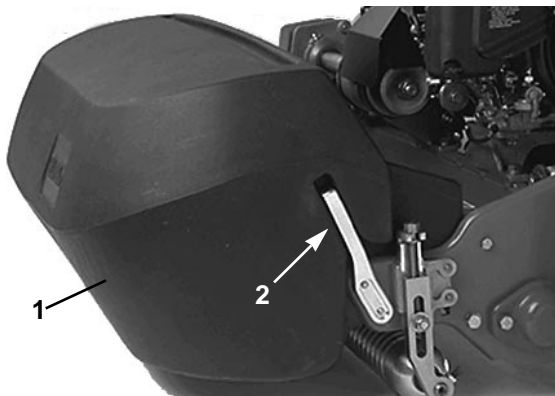

Fig. 12
1. Grasp the basket by the top rear lip and slide it onto the basket mounting rods (Fig. 12).